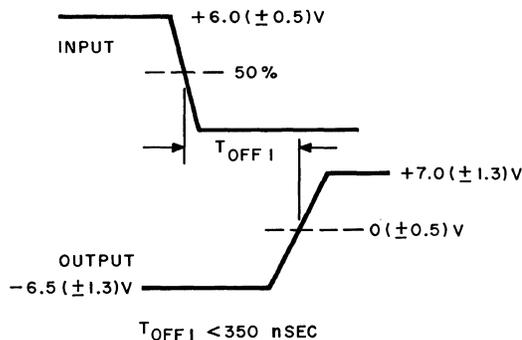

Fig. 40 — EIA Interface Test
- (1) Set the EXT SYNC TRIGGER to (–) negative.
- (2) Repeat 10.44 (1), (2), and (3). Input-output waveforms shall be as specified in Fig. 40, 41, and 42, respectively.